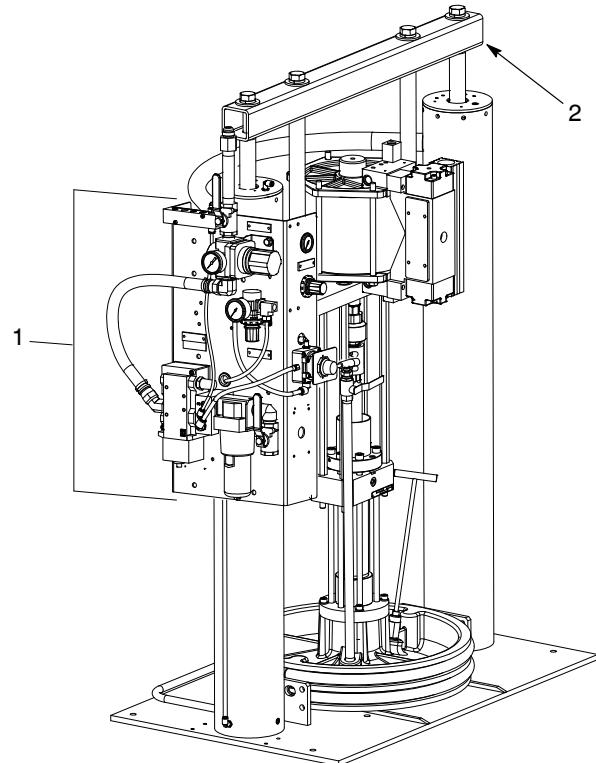

Figure 1 Control Module (Large Frame Rhino SD2/XD2 Bulk Unloader Shown)
See Figure 1. The control module (2) provides the electrical operating functions for Rhino SD2/XD2 bulk unloaders (1). It mounts to the side of small and large frame Rhino SD2/XD2 bulk unloaders.